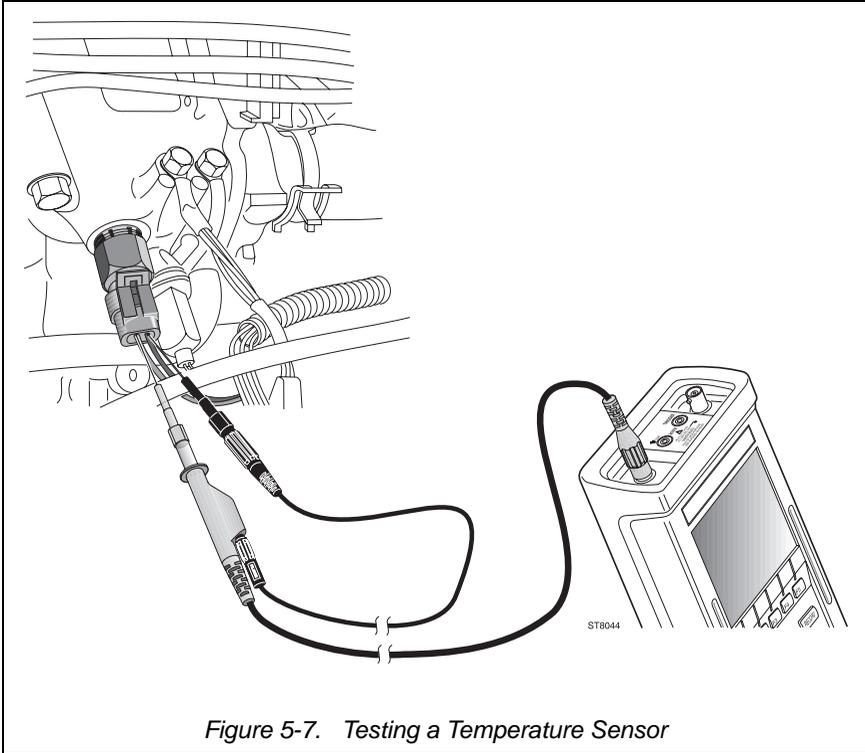

Figure 5-7. Testing a Temperature Sensor
- ①
- ②
- ③ Connect the test leads as displayed by the test tool's Connection Help and shown in Figure 5-7.
- ④   Start the temperature sensor test now.